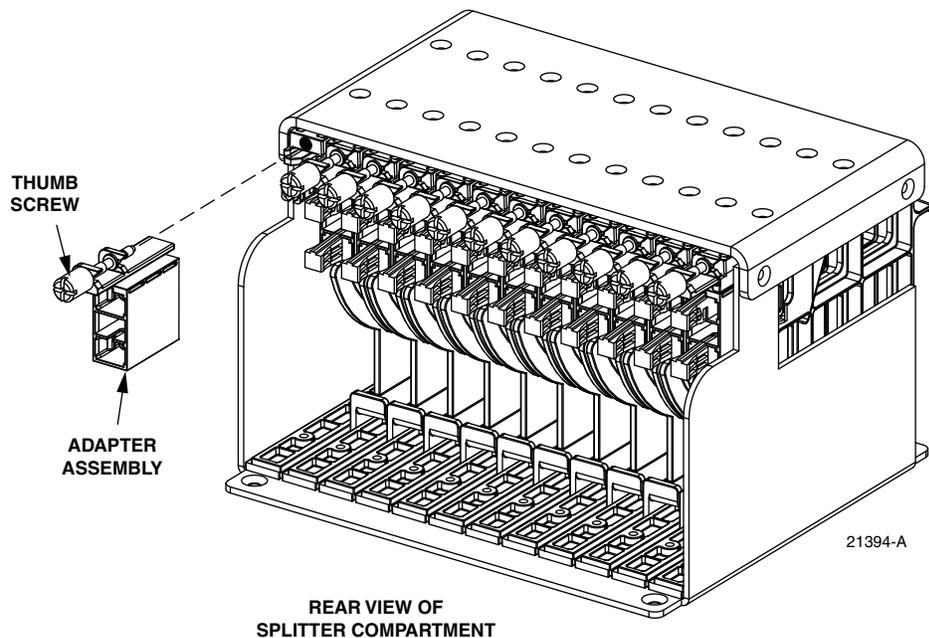

Figure 4. Adapter Assembly removal
- **Note:** In the area vacated by removing the dust cap assembly, there is a green splitter adapter assembly. CommScope advises cleaning the adapters and rear side (feeder) connector(s) on the splitter adapter assembly before installing the splitter. To do this, turn the thumb screw counterclockwise on top of the adapter assembly to detach it from the splitter compartment. See Figure 4. Slide out the adapter assembly several inches, then disconnect and clean the feeder connector(s) and clean the adapters on front and rear. For cleaning instructions, see ADCP-90-159. When done, re-connect the connector(s) and adapters and re-install the assembly.